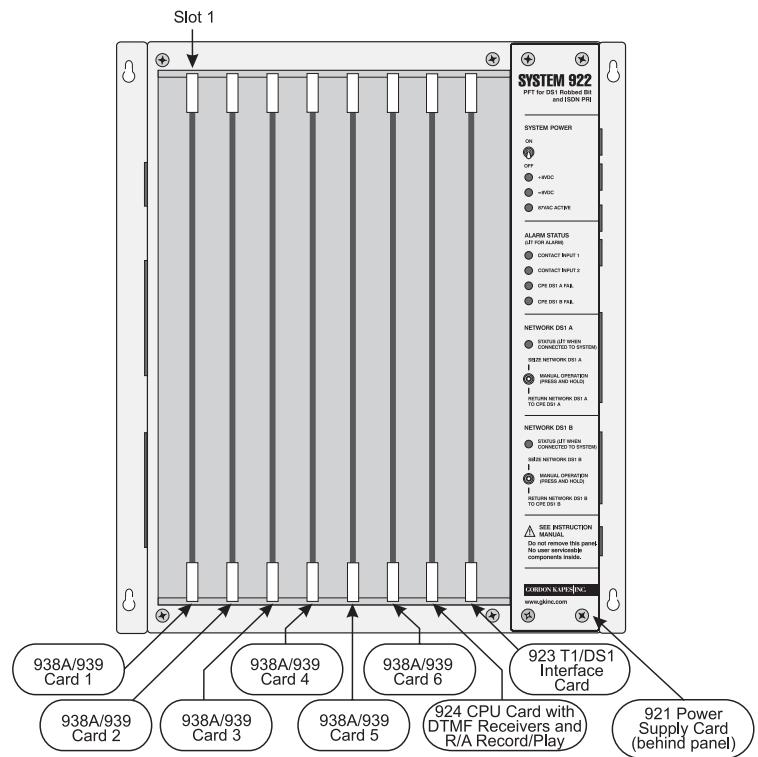

Figure 2-6. System 922 with All Cards Installed
- ❑ Observing Figure 2-6, install the cards associated with the specific installation into the System 922's enclosure. Firmly press the plastic handles at the top and bottom of each card to ensure the cards are fully inserted. To ensure cards cannot be inappropriately interchanged, the height of the mating connectors for each type of card is staggered. This enables you to interchange the analog cards, but not any of the other cards. Note that the two RJ11 "courtesy jacks" are functional only if an analog card is present in slot 1.